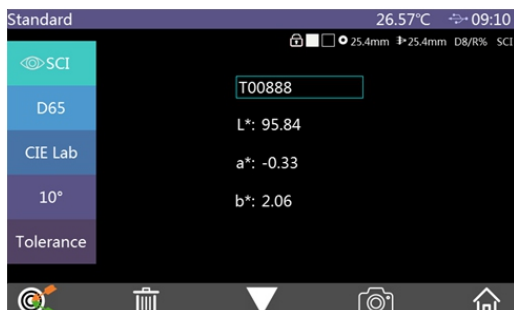
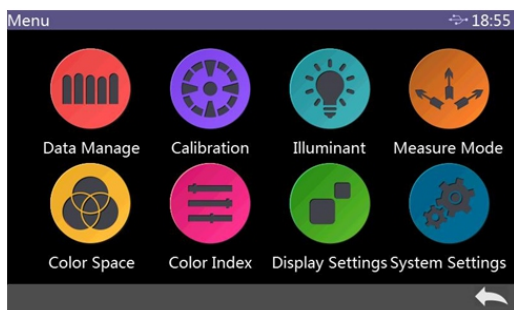
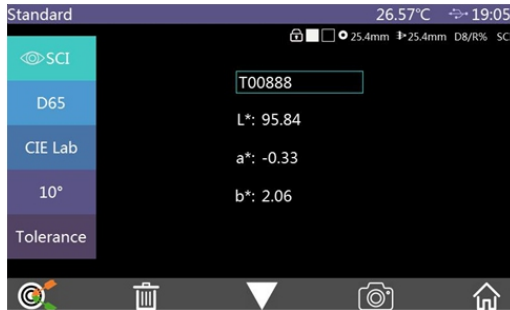
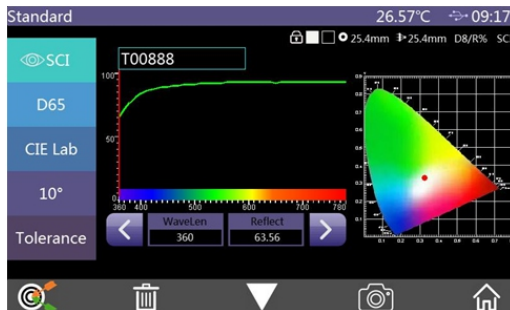

Figure 2 Standard Measurement
Figure 3 Main Menu
Figure 14 Standard Measure Interface
Figure 15 Reflectance Spectrum
1. In Figure 2 standard measurement interface, click , or in other interfaces click , or , to enter into Figure 3 main menu, as shown in the following figure.
- 1, Enter into main menu as shown in Figure 3, click “Calibration” to enter transmission black calibration. Place the transmission black plate into transmission sample bin and stick it to the side of integrating sphere tightly, close the cover, and click the test key to start calibration.
When above preparation is finished, enter Standard Measuring Interface (Figure 2), the measured sample is placed cling to the reflective measurement aperture of the instrument. The buzzer emits the sound of "beep" when the measuring key is pressed shortly. At the same time, the LED indicator flashes until the flashing stops, the buzzer emits the sound of "beep" again, then the measurement is finished. After it, the interface is shown as in Figure 14 and Figure 15. The following is a detailed description of the standard measuring interface.
- (9) Display mode: click  SCI or  SCE to switch the current mode of data display.
- (10) Light source: click on the shortcut key, the current test data can be quickly switched between D65, D50 and other standard light sources;
- (11) Color space: by clicking the shortcut key, the current test data can be quickly switched between CIE Lab, CIE XYZ, CIE Yxy, CIE LCh and other color spaces.
- (12) Observer angle: click to quickly switch the observer angle between 10 degree / 2 degrees.
- (13) Standard sample tolerance: Click to set the tolerance of current standard sample. If not set it, this is default system tolerance. For details please refer to section 2.5.
- (14) Name of standard sample: showing the name of the current measured sample. Click to modify quickly.
- (15) Switch to sample measurement: click  to enter the sample measurement interface.
- (16) Delete: Click the icon of  to delete the current standard record, at this moment the system defaults to open the automatic saving function. If you turn off this function, the icon should be  For details please refer to section 3.8.1.
- (17) Page turn: click  to look at other colorimetric data index of the current standard.
- (18) Camera locating: click  to view the position of the object to be measured at the reflective measurement aperture.
- (19) Wavelength switch button: Click  or  button to switch the wavelength of the light wave, the reflectance of the sample and the reflectance difference of the tested sample at the interval of 10nm, as shown in Figure 15.